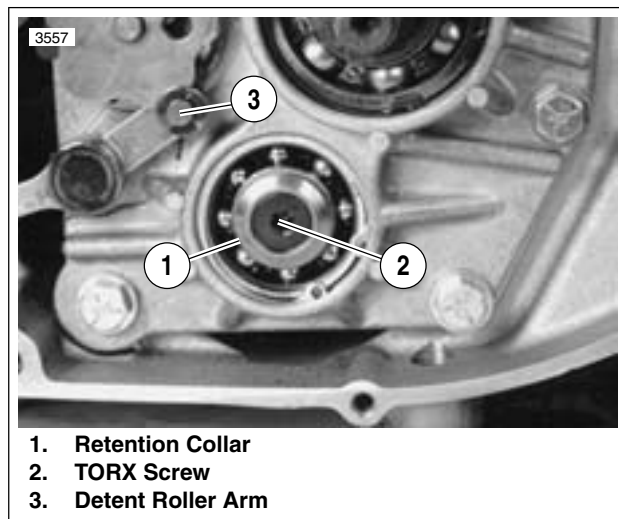

Figure 6-26. Countershaft Retainer
11. See Figure 6-26. Lock transmission in gear. Remove countershaft TORX screw (2) and retention collar (1).
See Figure 6-26. Install detent arm roller (3) between countershaft bearing and detent plate.